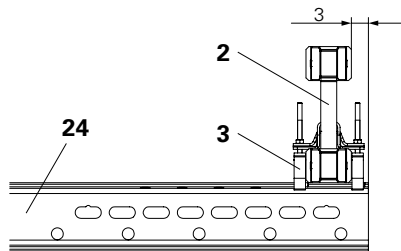
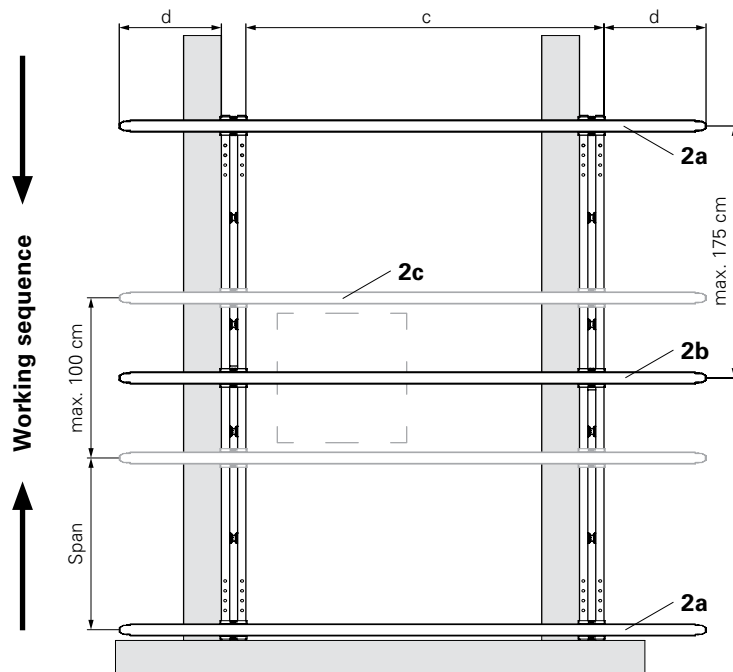

Fig. B5.02
Fig. B5.03
2. Place the two outer girders (**2a**) on the Steel Waler SRU (**24**). The distance of the girder to the edge is 3 cm. (Fig. B5.02) The overhang  $d$  is the same on both sides. (Fig. B5.03)
(Fig. B5.03)
- Planking span  $\leq 1.75$  m. Compare DIN EN 12811-1. (Fig. B5.03)